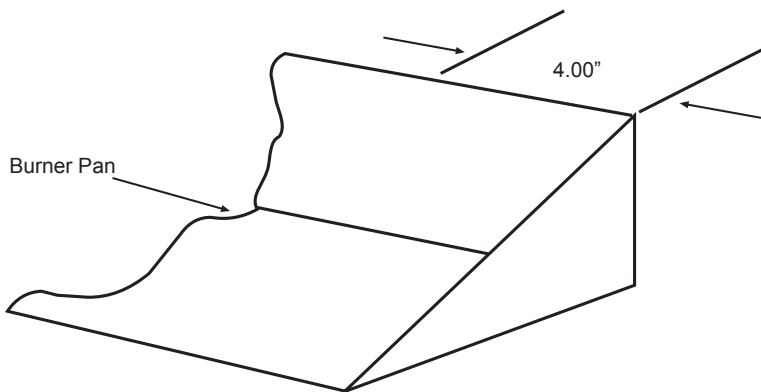

Fig. 6 Shows approximate pilot location from end of the burner pan.
3. Locate a position on the back of the burner pan about 4-inches from the right or left side of the burner pan. See (Figs. 6- 8)
4. Mount pilot assembly to burner pan as shown in (Figs 6 and 7). Note this pilot bracket clips on the burner pan and holds the pilot at a 45-degree position onto the pan and no screws required. Note: A screw can be added to secure the pilot assembly if needed. Carefully bend 1/4" pilot tubing from pilot assembly until the bottom of the pilot bracket is resting against the pan. (This will hold the pilot at the 45 degree position) then connect pilot fitting to valve. **(Use caution when bending pilot tubing not to kink the tubing or locate the tubing in or over the burner pan)**